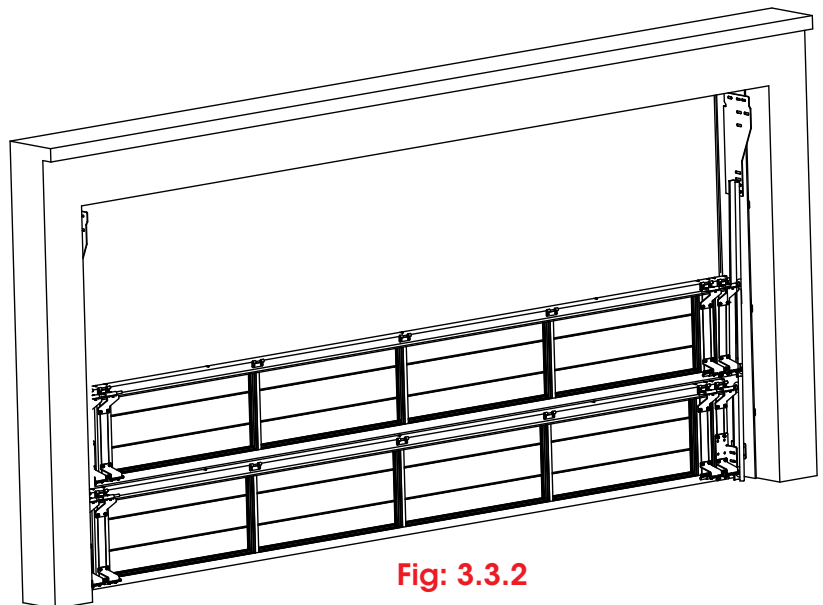
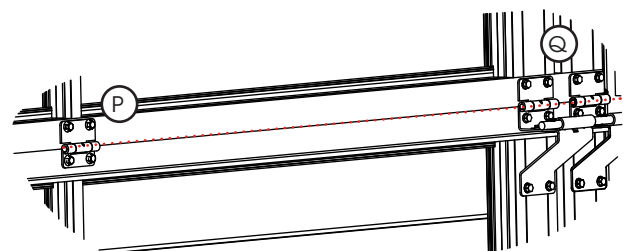

Fig: 3.3.2
Fig: 3.3.3
- d) Before adding the next panel, fit a temporary spacer, 1-2mm thick, at each panel joint to give clearance between each panel. Carefully move the second panel into position between the tracks and lower to rest on top of spacers Fig 3.3.2.
- f) Ensure front face of panel is aligned with bottom panel before screwing the hinges (P) and end hinges (Q) to the next panel.
NOTE: The end hinges (Q) are adjustable to ensure the panels are flush to the temporary board. Ensure they are aligned with middle hinge (P) as per Fig: 3.3.3.